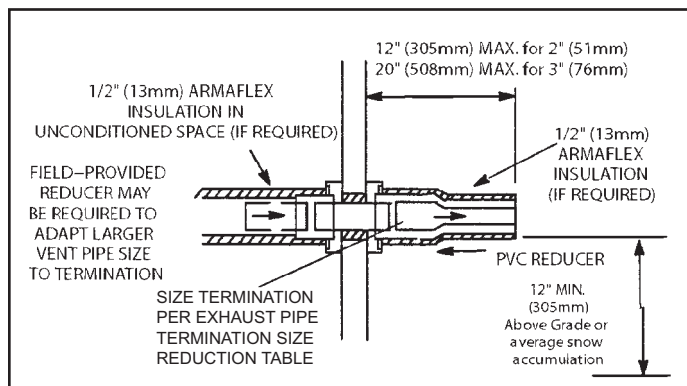

Figure 46. Non-Direct Vent Field Supplied Wall Termination
2. On field supplied terminations for side wall exit, exhaust piping may extend a maximum of 12 inches (305 mm) for 2" PVC and 20" (508 mm) for 3" (76 mm) PVC beyond the outside wall. See Figure 46.